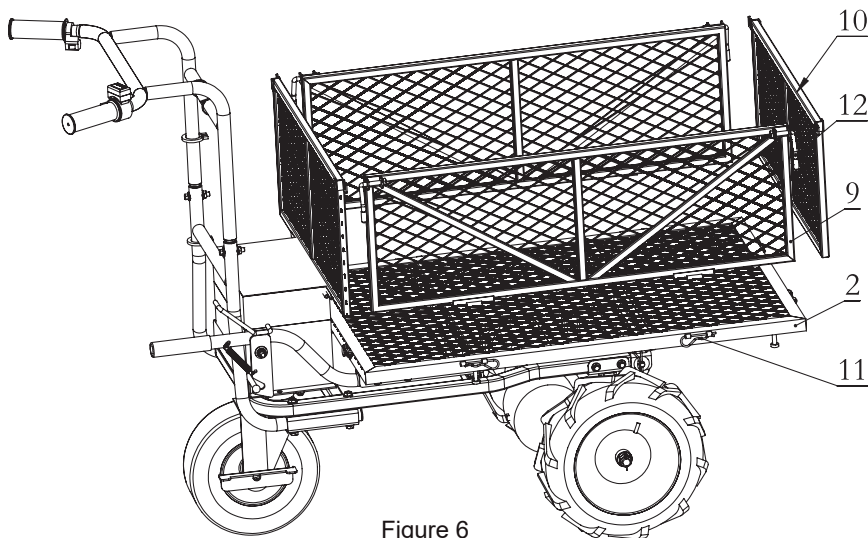

Figure 6
3. Assemble the left & right frame (9), and the front & back frame (10), locked by Pin (11).
4. Locking the entire frame by handle bar (12), the electric cart assembly finished. **(See Figure 6)**